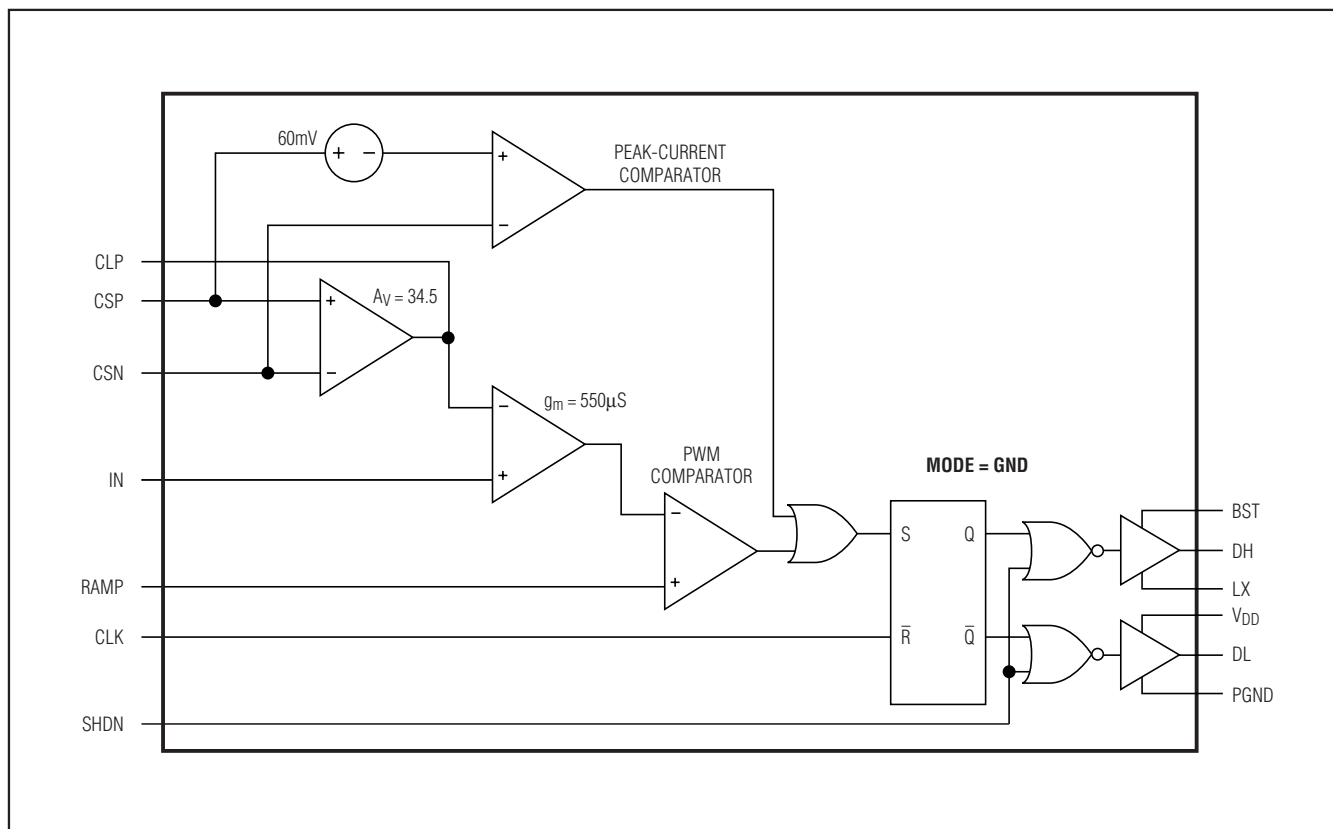

Figure 3. MAX16821A/MAX16821B/MAX16821C Phase Circuit
The peak-current comparator provides a path for fast cycle-by-cycle current limit during extreme fault conditions, such as an inductor malfunction (Figure 3). Note the average current-limit threshold of 27.5mV still limits the output current during short-circuit conditions. To prevent inductor saturation, select an inductor with a saturation current specification greater than the average current limit. The 60mV threshold for triggering the peak-current limit is twice the full-scale average current-limit voltage threshold. The peak-current comparator has only a 260ns delay.
$2V_p$ -p ramp signal. At the start of each clock cycle, an R-S flip-flop resets and the high-side driver (DH) turns on if MODE is connected to SGND, and DL turns on if MODE is connected to V_{CC} . The comparator sets the flip-flop as soon as the ramp signal exceeds the CLP voltage, thus terminating the ON cycle. See Figure 3.